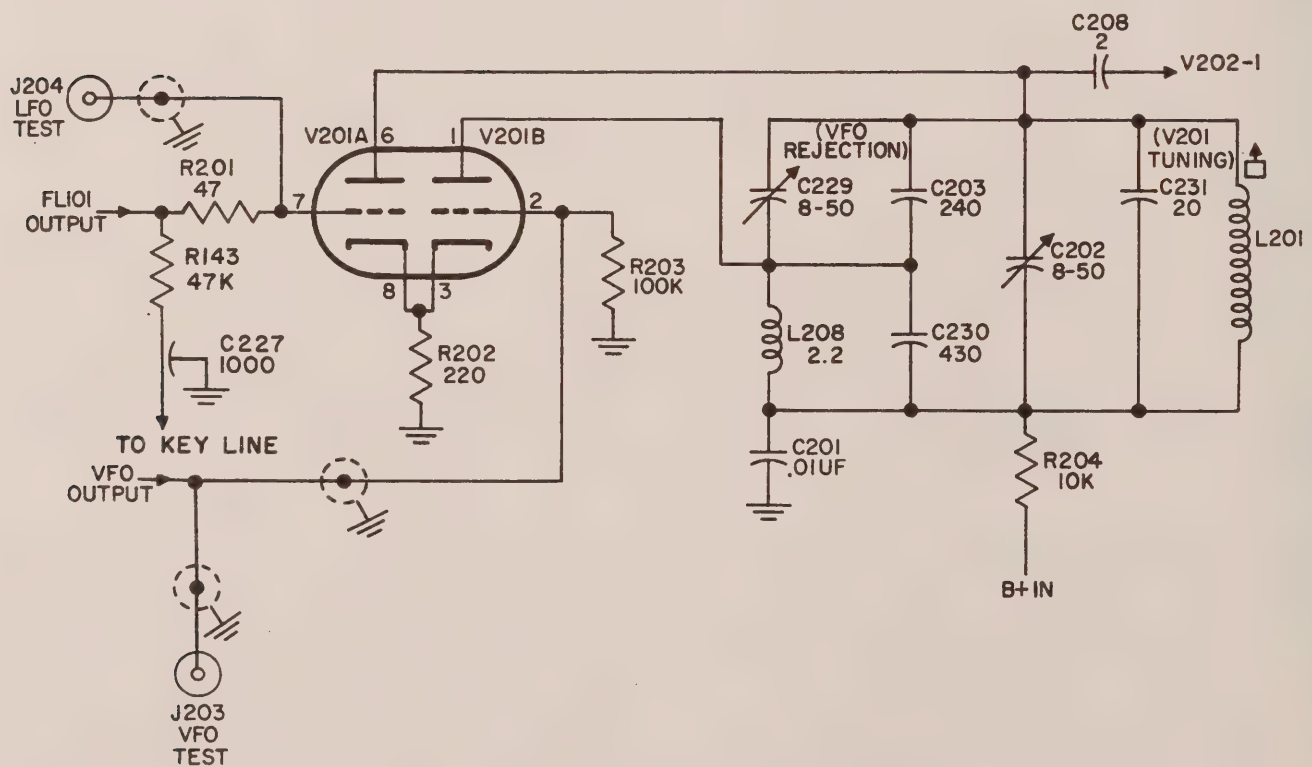

Figure 4-8. First Mixer V201, Simplified Schematic Diagram
(1) V201 FIRST MIXER STAGE. A simplified schematic diagram of the first mixer stage appears in figure 4-8. This diagram will assist in understanding the theory involved in the first mixer design.